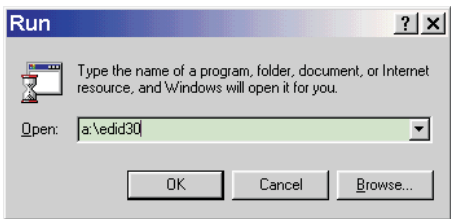

Fig. 5
- 3. At the submenu, type the letter of your computer's floppy disk drive followed by :EDID30 (for example, A:\EDID30, as shown in Fig. 5).